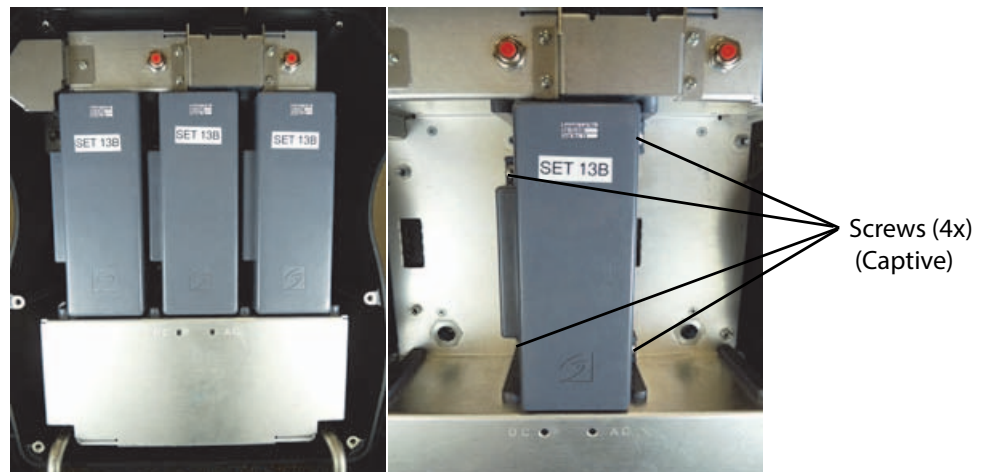
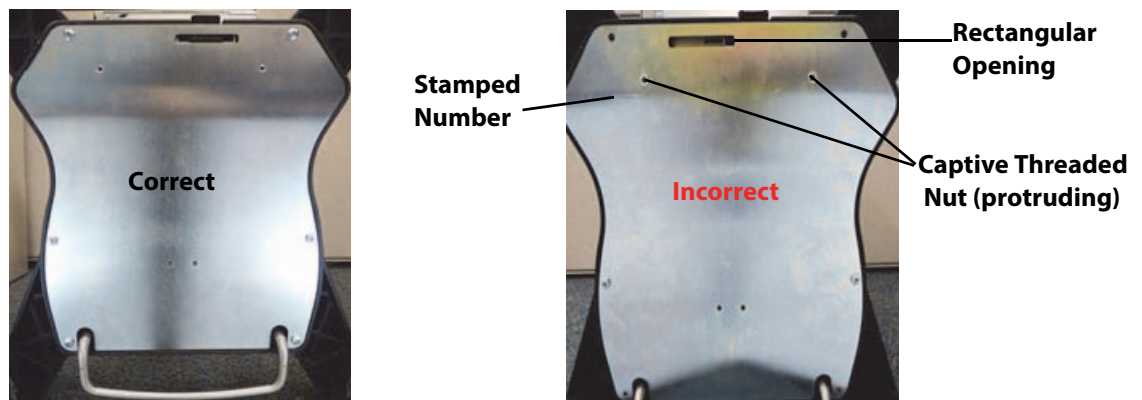

Figure 6.10 Batteries
Figure 6.14 Correct Bottom Plate Orientation
- 13 Remove the three batteries mounted to the SPMU by loosening the four captive Phillips screws holding each battery and pull each battery off of the SPMU. Refer to Figure 6.10 on page 42.
*Note: The Bottom Plate will mount inside out. When the Bottom Plate is incorrectly mounted, the PowerPark will not connect to the stand. Please ensure that the Bottom Plate has the top opening under the AC power cord IEC socket and that the two captive thread areas are not protruding out of the stand base. Refer to Figure 6.14 on page 44*
- 2 Tighten the captive battery retention screws and the six M5 x 8 Phillips screws for the bottom stand plate to 20-inch pounds. Refer to Figure 6.10 on page 42 and Figure 6.14 on page 44